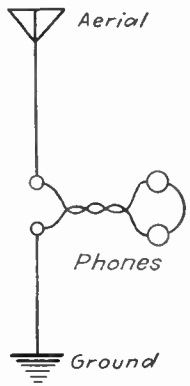

FIG. 88. Can you hear sound in this hookup?
Will Earphones Produce Sound from Aerial Currents? Telephone receivers or earphones are sensitive indicators of extremely weak currents. But when we connect phones to the aerial-ground circuit, as in Fig. 88, we hear no signals as the radio-frequency alternating current flows through the phones. Why is this true?
4. If no sound can be heard in the hookup (Fig. 88), would you expect to get signals from a regular set if the aerial and ground should accidentally get shorted together?